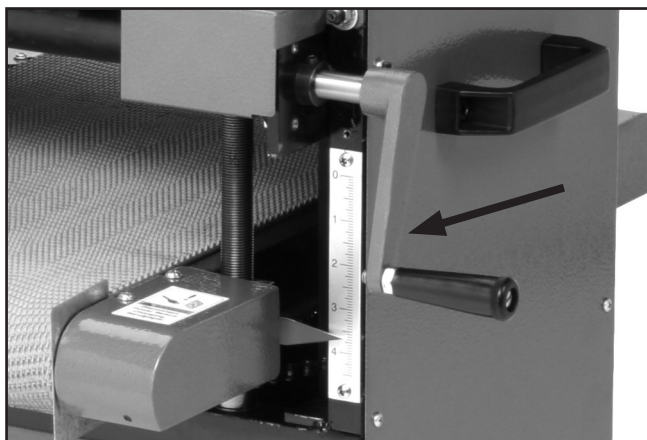

Figure 9. Setting depth of cut.
1. Rotate the crank handle (**Figure 9**) until the table is well below the sanding drum, then raise the table, allowing a gap between the workpiece and the drum.